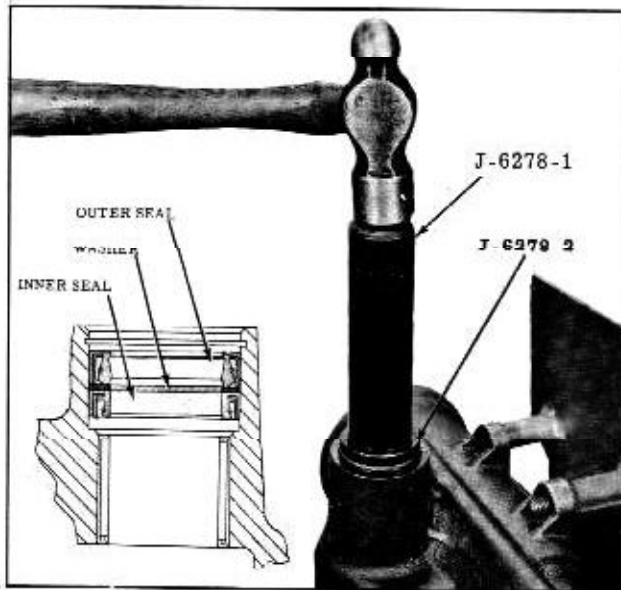

Fig. 4-62 Installing Oil Seals
- b. Drive the seals into the housing until the top of Adapter J-6278-2 is flush with the housing. (Fig. 4-62)
- d. Reinsert Tool J-6278-1 with Adaptor J-6278-2 and continue driving the seals until the retaining ring seats in its groove (Inset, Fig. 4-62), then remove the tool and adaptor.